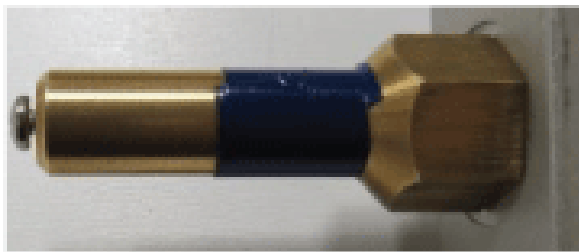

Figure 16: Insert the pressure simulator into the inlet of the PRD block for testing.
14. Insert the pressure simulator into the inlet of the PRD block. Ensure the screw on the pressure simulator pops out slightly when the simulator is bottomed against the PRD block as shown in Figure 16.